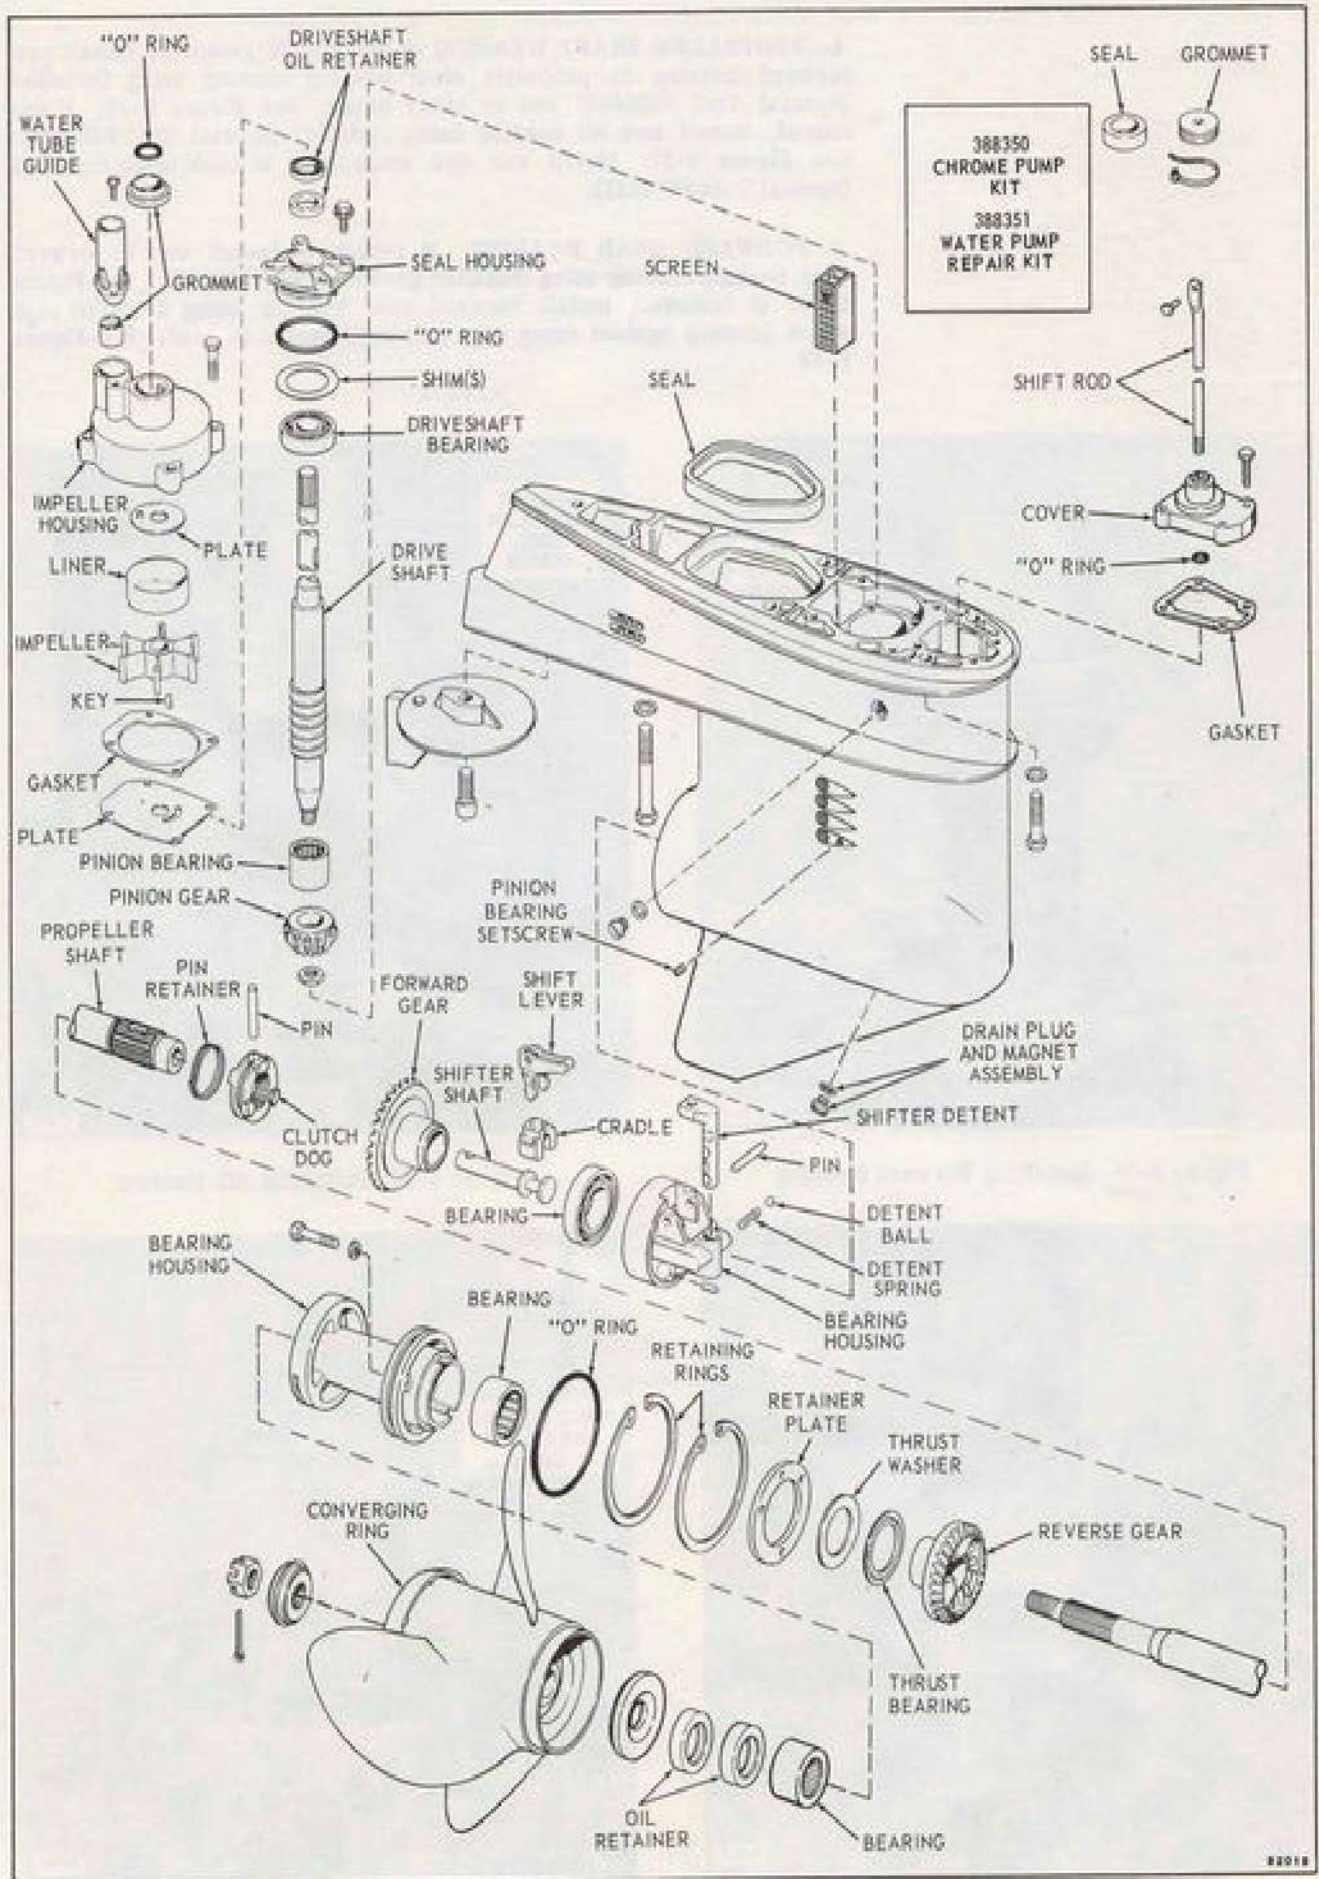

Figure 6-35. Gearcase Assembly Components (Standard Length)
a. Remove water tube guide. See Figure 6-35. Remove four screws and slide water pump impeller housing and impeller off of driveshaft. See Figure 6-16.
If not removed, remove drain plug and magnet assembly to prevent breakage of magnet. See exploded view Figure 6-35.